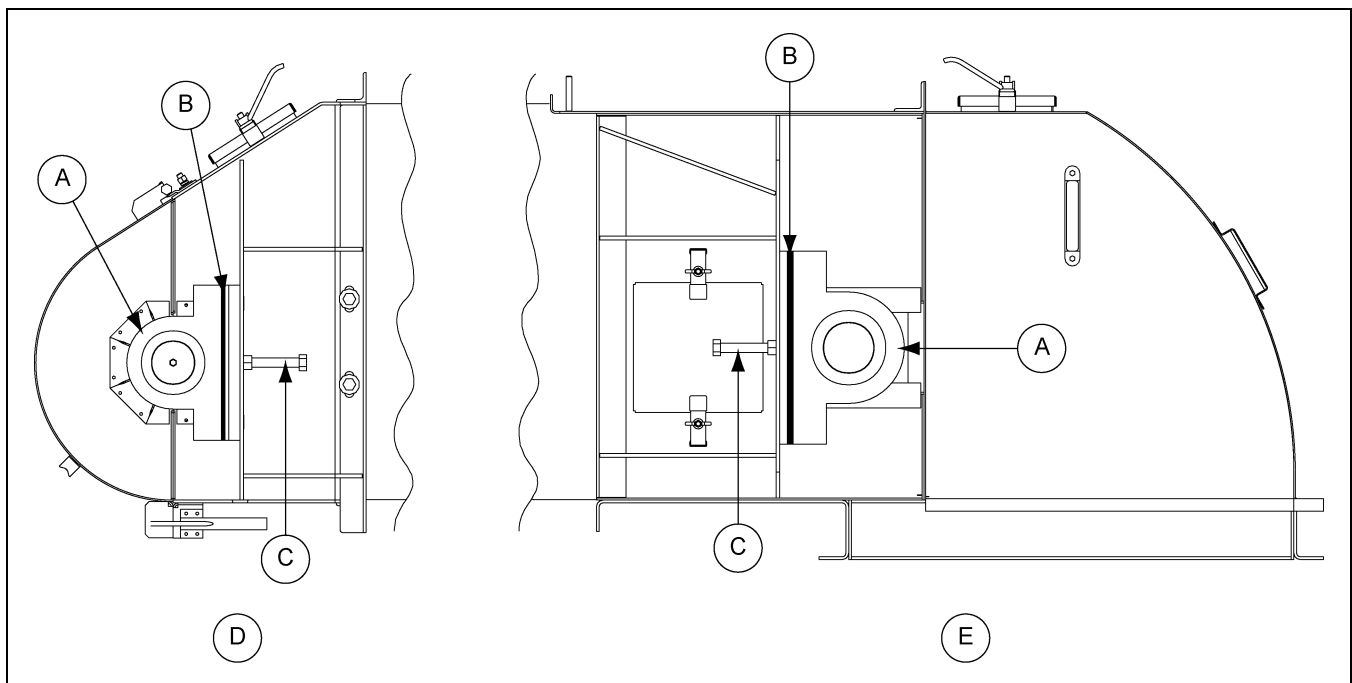

Figure 5C
3. After conveyor has been installed, check to see if the unit is level (width wise). The conveyor must be level for proper belt tracking. *(See Figure 5C.)*